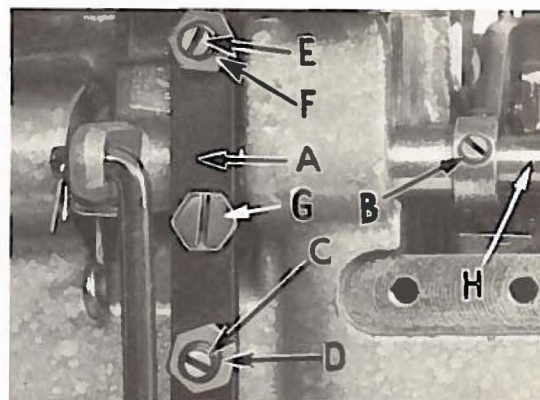

Fig. 16
The front edge of needle hole in presser foot must be aligned with front edge of needle hole in throat plate. It is also important that the bottom of the presser foot be flat on the throat plate. If necessary, presser foot can be realigned with throat plate slots by shifting the foot lifter lever shaft (H, Fig. 16). To move the shaft, loosen collar screws (B, Fig. 16) and clamp screw (G) and then shift the foot lifter lever shaft to the left or right as required. Retighten collar screws and clamp screw.
The foot lifter lever arm (A, Fig. 16) and the collar (B) secure the shaft. Be sure the presser arm does not bind or rise when presser foot release bushing is unlocked.